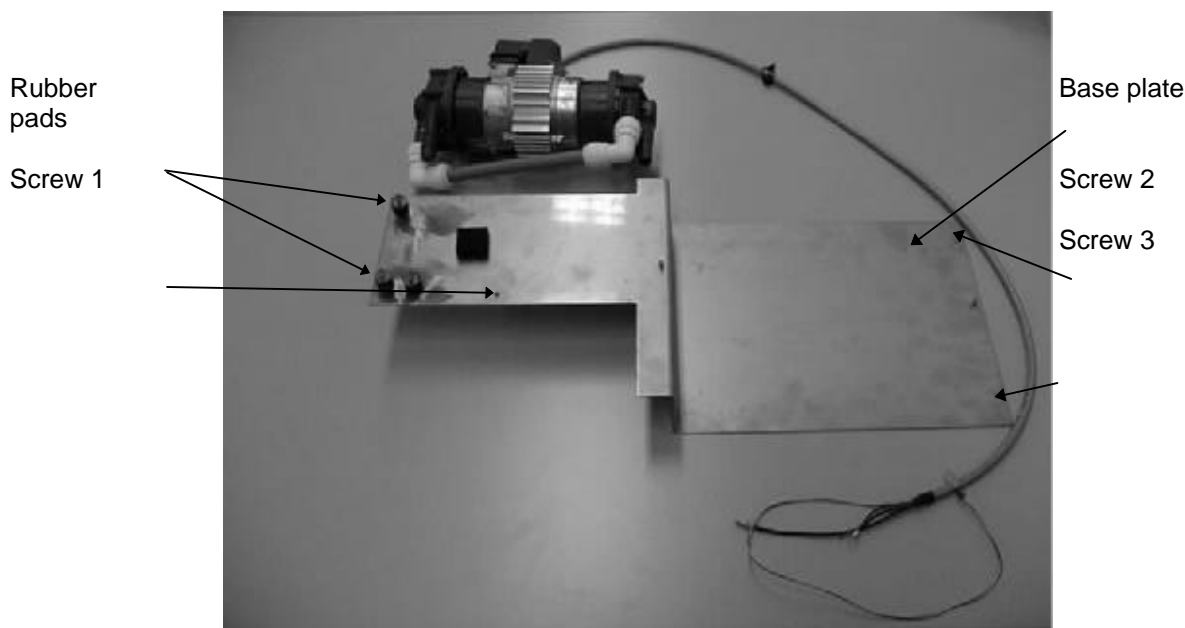

Fig. 37: Pump and base plate
13. Screw new pump onto base plate. (Orientation as shown in Fig. 37)
The procedure for replacing the water tank is similar to that for replacing the pump (see 8.4.1). Pump and water tank are located on a common base plate. This base plate is arranged in the bottom part of the device and fixed to the device with screws 1 ... 3 (Fig. 37). The pump rests on 3 rubber pads and a glued in piece of rubber on the base plate.